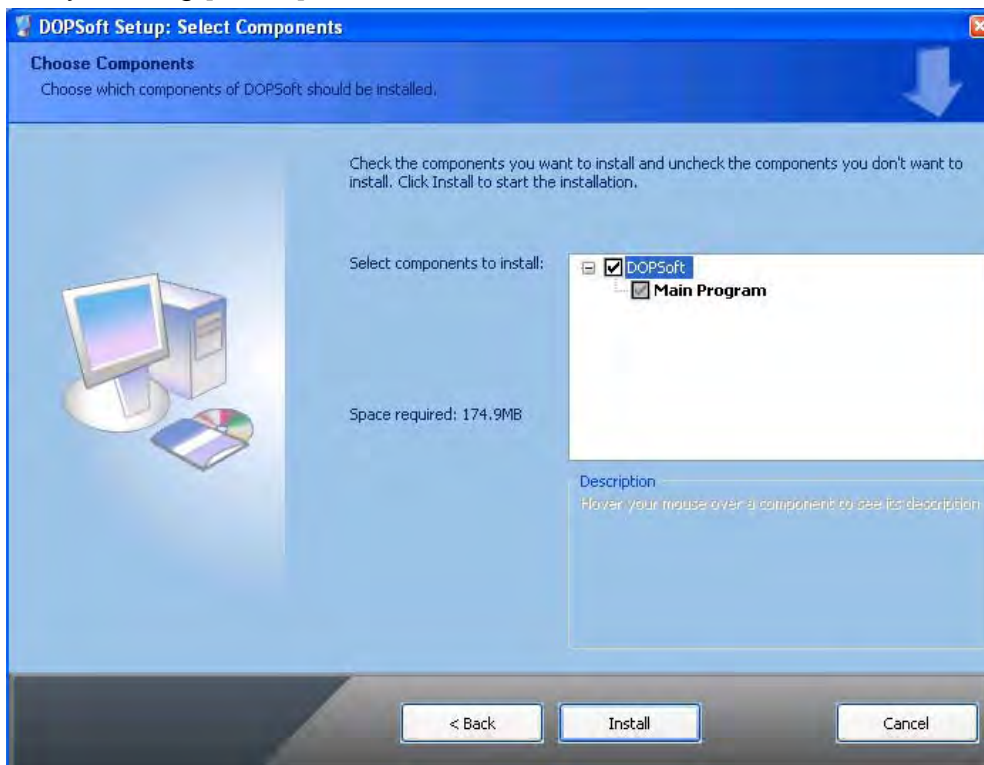

Figure 2-1-3 Select Components in Windows XP
- ◆ Please check if the DOPSoft component is checked, as shown in Figure 2-1-3 below, followed by clicking [Install].